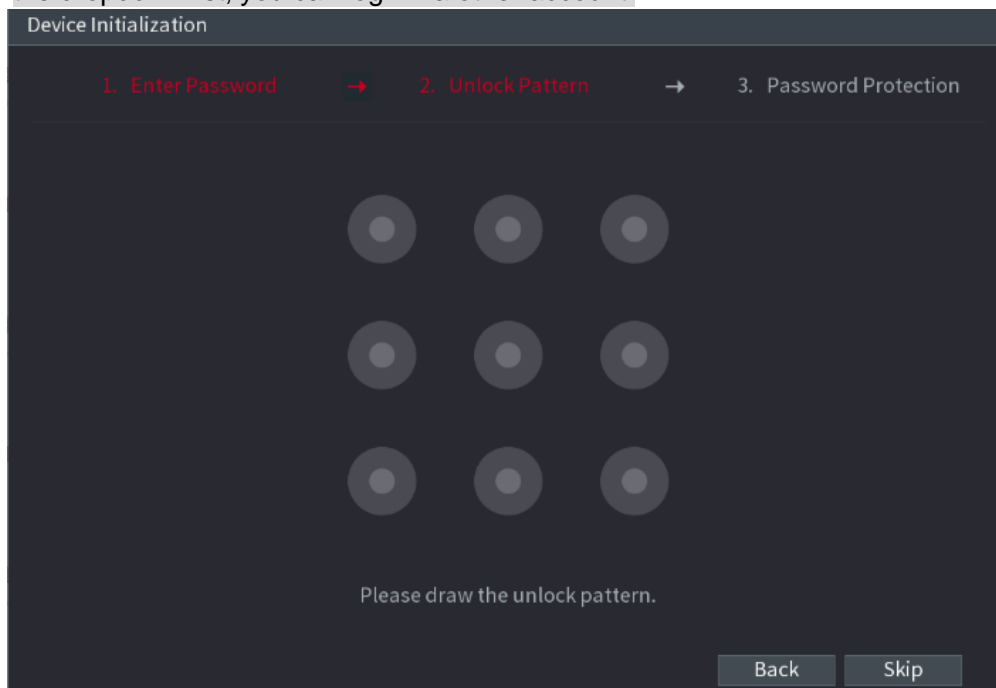
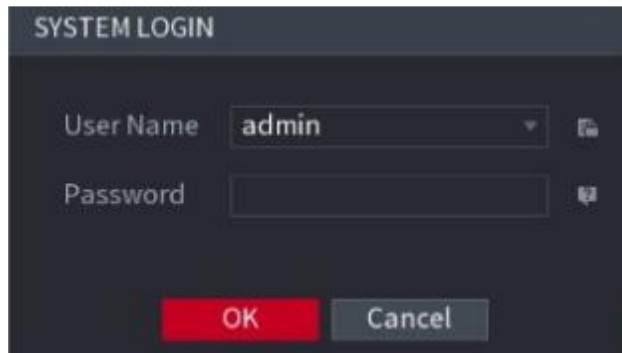

Figure 7
Figure 8
Step 1 Go to the device login interface. See Figure 7 or Figure 8.
- ★ If you have set unlock pattern, device displays unlock pattern login interface. See Figure 7 **Error! Reference source not found.** Click “Forgot unlock pattern”, device goes to Figure 8.
Click Switch user button in Figure 7 or click the user name in Figure 8 and then select a user from the dropdown list, you can login via other account.